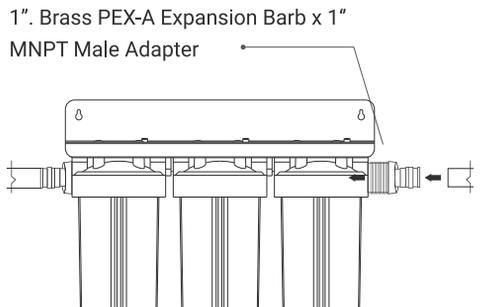

Figure 1
2. Remark two 1". Brass PEX-A Expansion Barb x 1" MNPT Male Adapter(not included in the box). Wrap more than 10 turns of Teflon tape on the external thread of the Adapter. Screw one end of the external thread into the thread of the 1" FNPT filter bottle and tighten it with a wrench. **(Figure 1)**